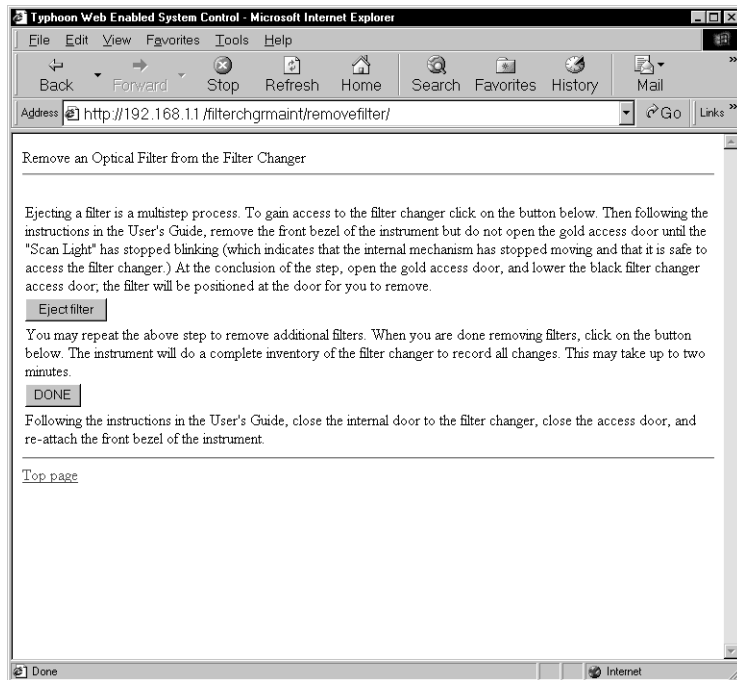

Figure 13-9. The Remove an Optical Filter from the Filter Changer window.
2. Make sure the sample lid is closed, and then click **Remove an Optical Filter**. The Remove an Optical Filter from the Filter Changer window appears (figure 13-9).